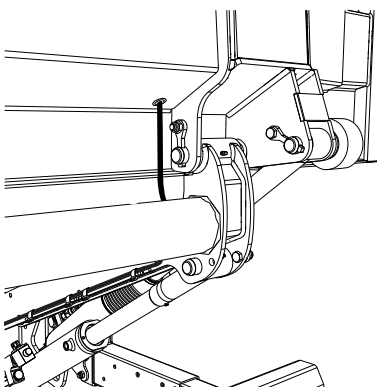
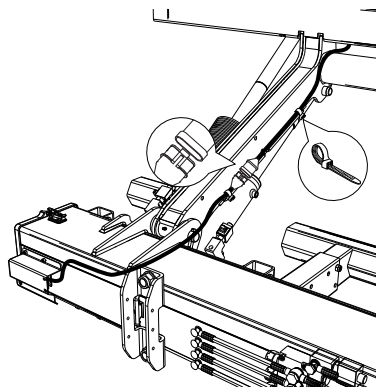
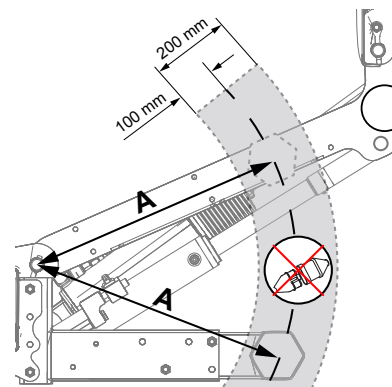

Figure 73. Installing cabling
Figure 74. Installing cabling
Figure 75. Quick connector location
2. Route the cable and install with cable ties according to Figure 73 and Figure 74. The quick connector must be positioned in such a way that it does not conflict with the underrun protection while the lift arm is in motion. Measure the distance (A) from the centre of the lift arm shaft to the centre of the underrun protection; see Figure 75.
3. Measure the same distance (A) on the lift arm; see Figure 75.
4. Then place the quick connector at least 100 mm outside or inside the measured point (A); see Figure 75.